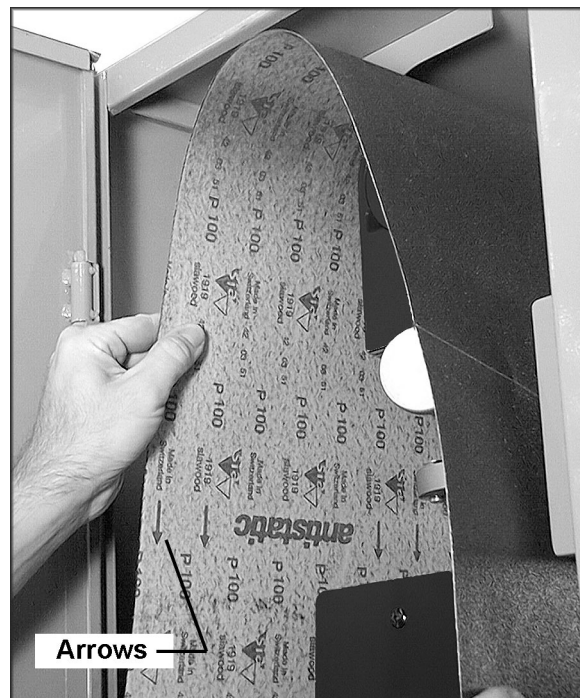

Figure 4
**CAUTION** Make sure the direction of the arrows on the inside of the sanding belt matches the rotation of the machine. See Figure 4.